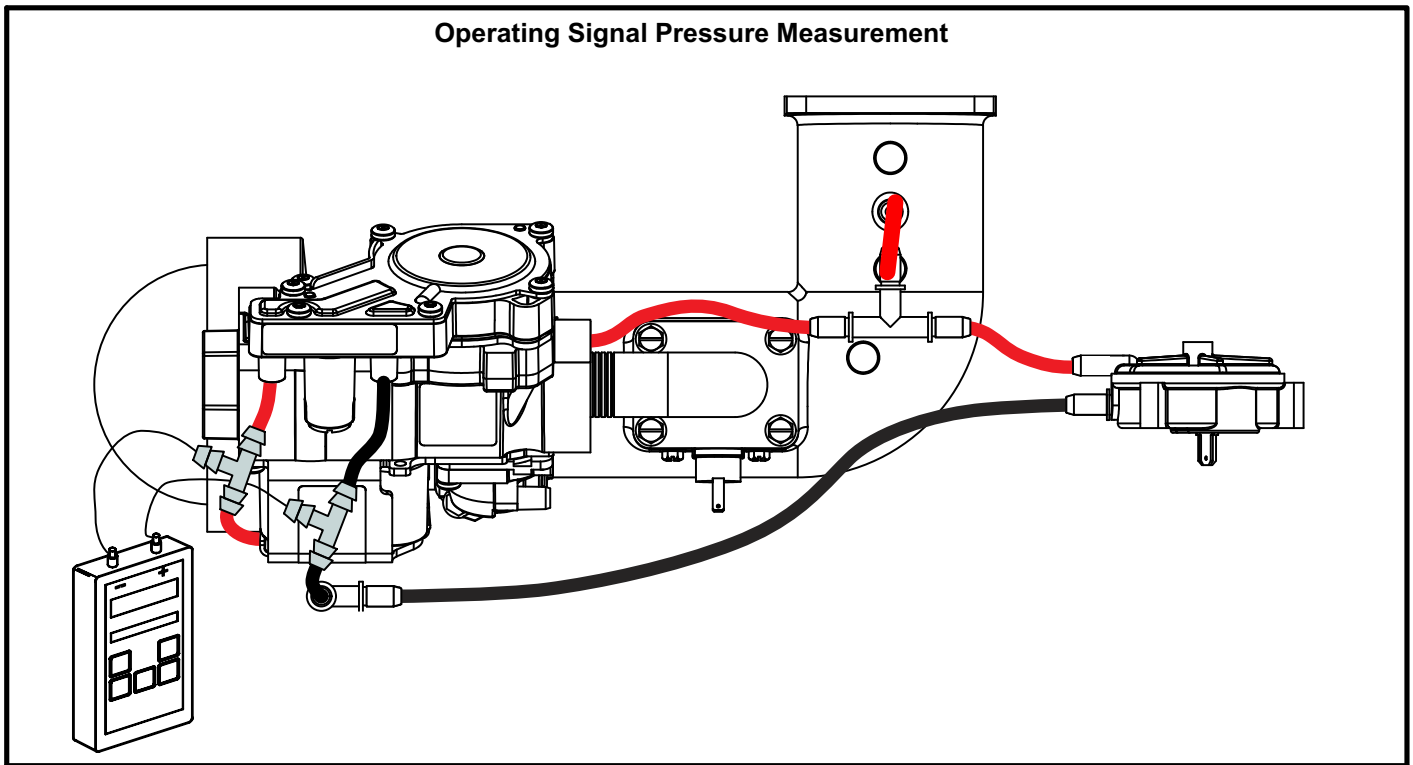

FIGURE 21
- 3 - Install hoses and meter as shown in figure 21 for signal pressure measurement.